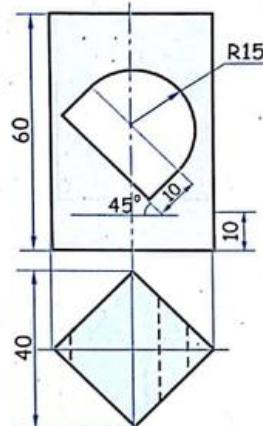

FIG. 12.68
9. Figure 12.68 is the elevation and plan of square prism with hole (composed of rectangle and semicircle) as shown. Draw the D.L.S. of prism.